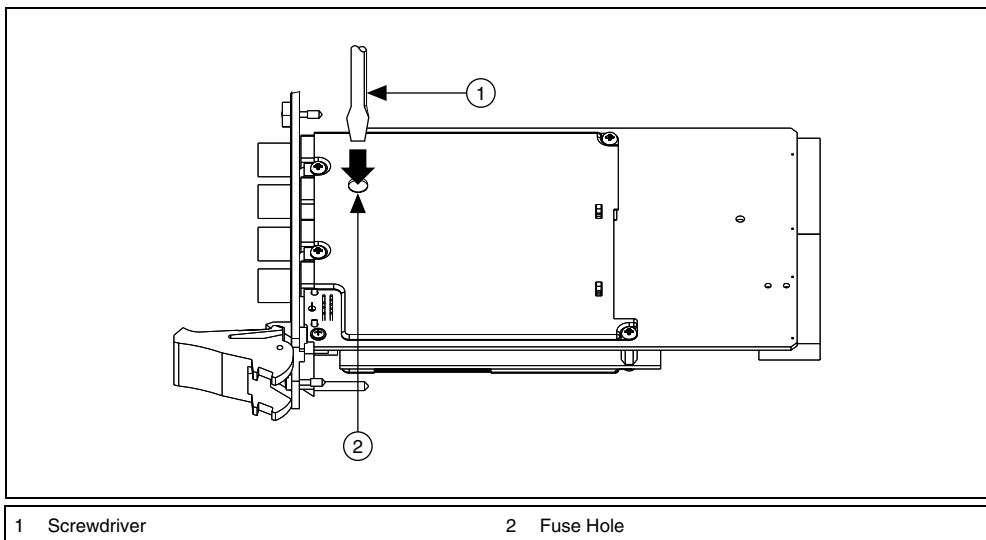

Figure 28. Removing the Fuse from the NI PXI-407x
3. Locate the fuse hole shown in Figure 28.